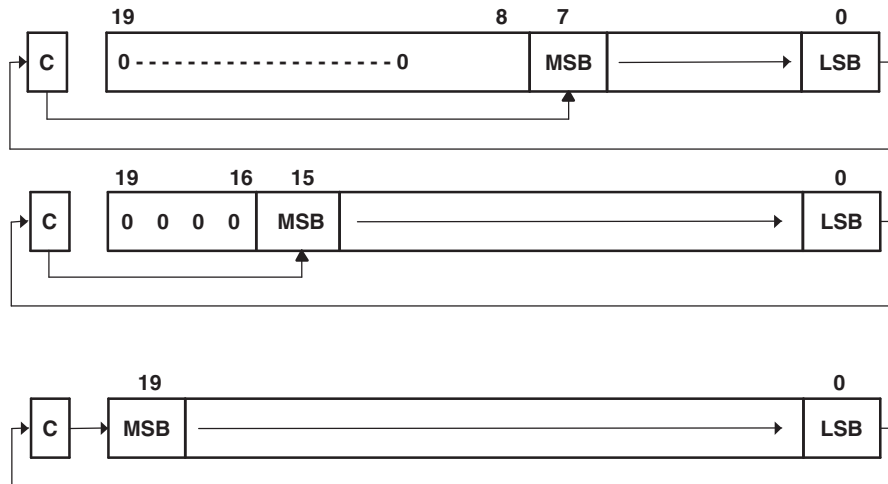

Figure 4-50. Rotate Right Through Carry RRCX(.B,.A) – Register Mode
**Description** Register mode for the destination: the destination operand is shifted right by one bit position as shown in Figure 4-50. The word instruction RRCX.W clears the bits Rdst.19:16, the byte instruction RRCX.B clears the bits Rdst.19:8. The carry bit C is shifted into the MSB, the LSB is shifted into the carry bit.